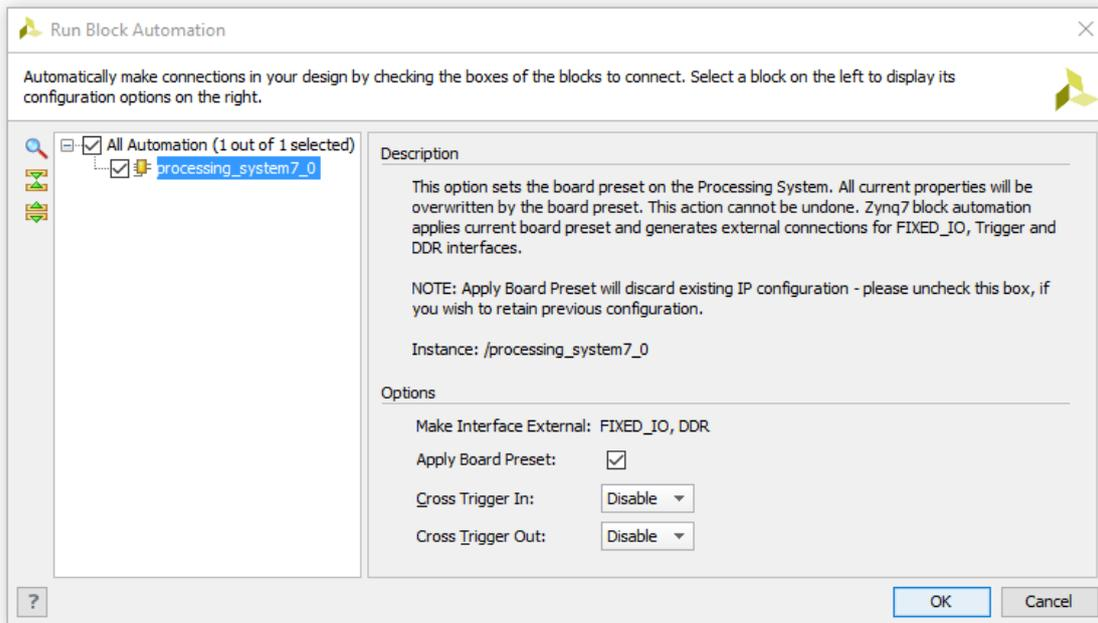

Figure 3: Run Block Automation
4. Click **Run Block Automation** (Figure 3) to connect I/O peripherals and DDR to the processing system. If a preset file is provided by the board designer, it can be used in the processing system by marking **Apply Board Preset**. Otherwise, bank voltages and memory configuration must be set manually. Finally, click **OK**.